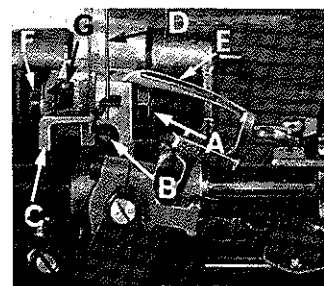

Fig. 14
If feed dog teeth are not parallel with the throat plate, loosen nut (A, Fig. 14) and turn screw (B) clockwise to lower the front teeth and counterclockwise to raise the front teeth. Retighten nut when feed dog is set properly.
Set the rear needle guard (C, Fig. 14) horizontally so that it does not quite contact the rear of the right needle (D) when at its most forward point of travel. A clearance of .005 inch (.13 mm) is permissible. It should be set as low as possible, yet have its vertical face approach within about 3/64 inch (1.19 mm) of the needle, until the point of the looper (E), moving to the left, is even with the needle. To move needle guard forward or backward, merely loosen screw (F), move needle guard as required, and retighten screw. To raise or lower needle guard,